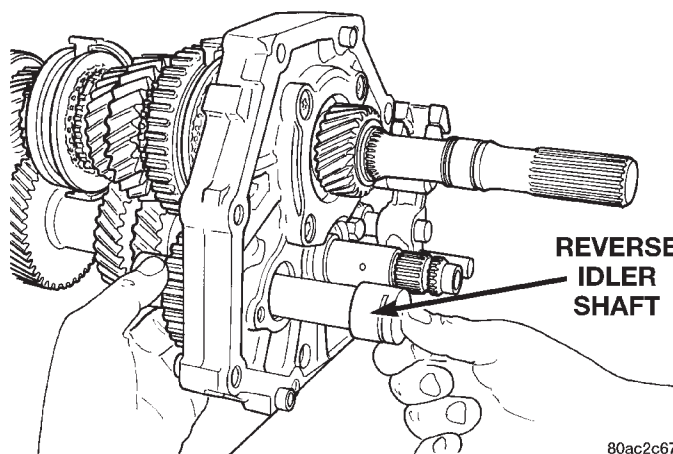

Fig. 90 Install Reverse Idler Shaft
(33) Install the reverse idler shaft through the intermediate plate and reverse idler gear assembly (Fig. 90) until the idler shaft pin contacts the gear assembly. Make sure that the notched cut-out in the idler shaft is to the rear of the transmission.